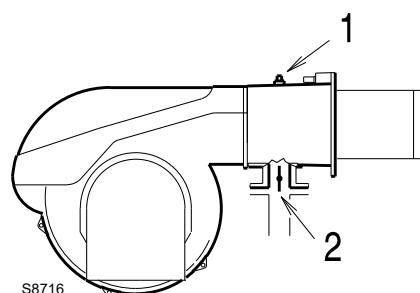

Fig. 25
Gas pressure measured at the test point 1)(Fig. 25), with:
Pressure loss at gas butterfly valve 2)(Fig. 25) with maximum opening: 90°.
- Subtract the combustion chamber pressure from the gas pressure measured at test point 1)(Fig. 25).
Gas pressure at test point 1)(Fig. 25) = 15.0 mbar
To know the required gas pressure at test point 1)(Fig. 25), set the maximum output required from the burner operation, then:
- Read, on the right (column 1) the socket pressure 1)(Fig. 25).
pressure required at test point 1)(Fig. 25).